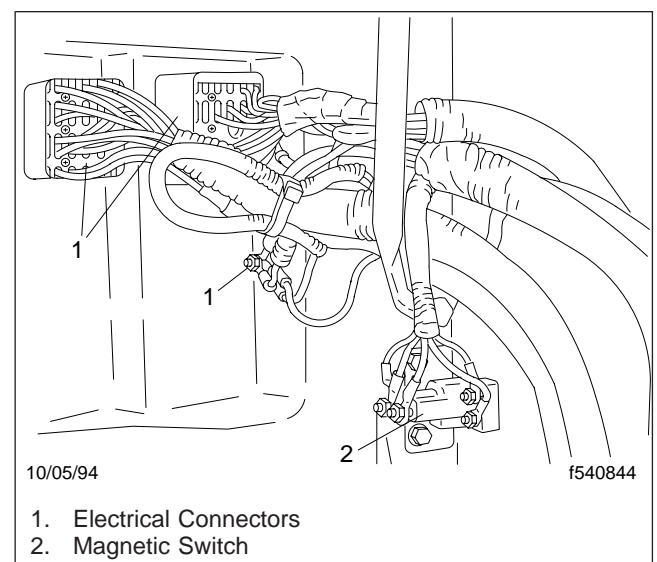

Fig. 2, Right Side of the Frontwall
8. Check connectors on the right side of the front-wall, below the radiator surge tank. See Fig. 2. Check the terminals for tightness, damage, corrosion, or dirt.